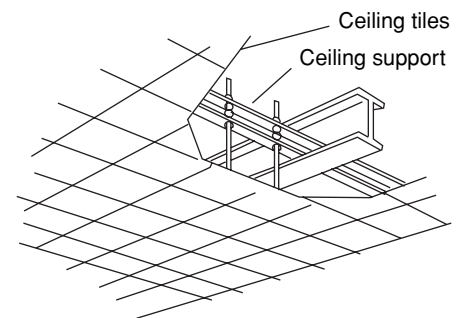

Fig. 3-80
- Use existing ceiling supports or construct a suitable support as shown in Fig. 3-80.